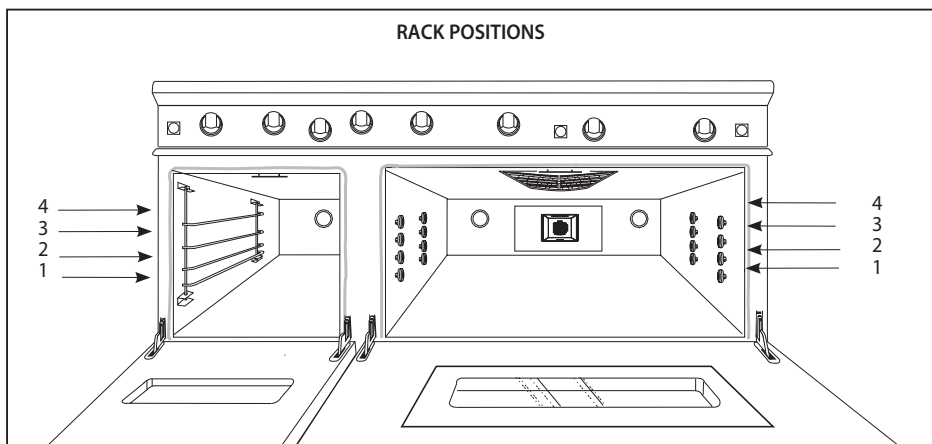

Fig. 01
2. Place the oven racks in the proper position before turning on the oven. For correct rack position check your recipe. The most frequently used position is number 2 (the food product must be in the center of the oven for airflow). The rack positions are numbered from the bottom as in the floors of a building (Fig. 01).